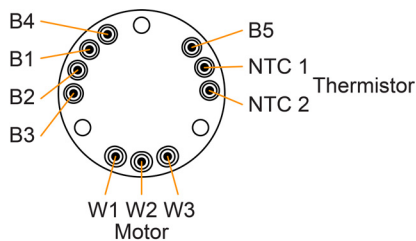

Figure 20 ENX 13...22 COMM – Pins
- Hall sensors, motor, and NTC with pins (→Figure 20)